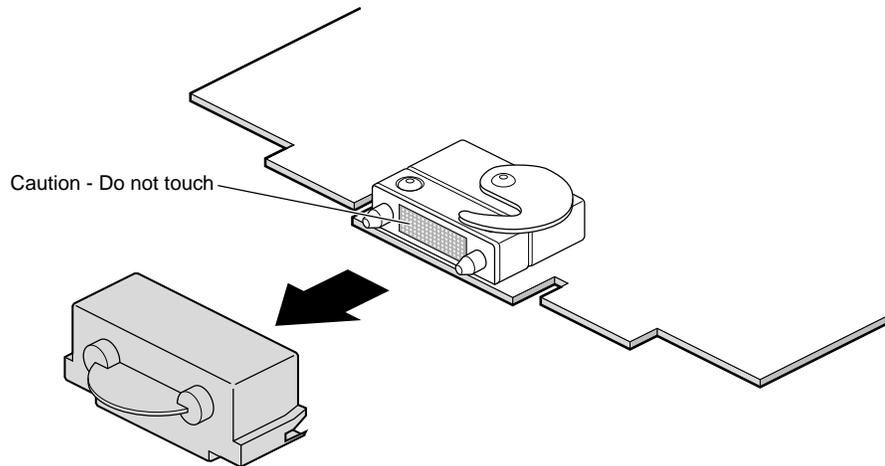

Figure 5-17 Removing the Cap from the XIO Board Compression Connector
5. Remove the cap from the XIO compression connectors, as shown in Figure 5-17.